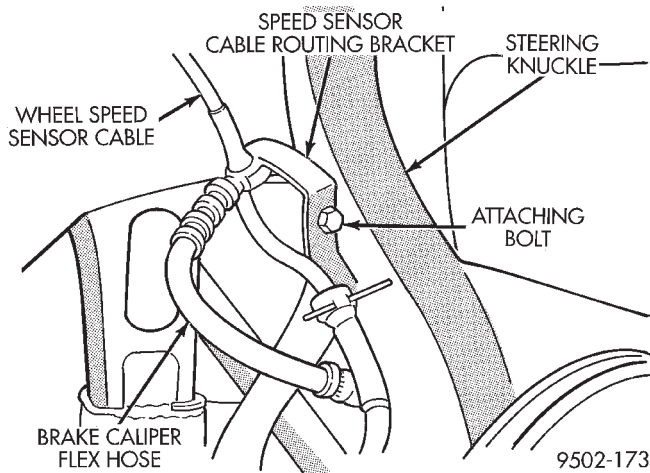

Fig. 11 Wheel Speed Sensor Cable Routing Bracket
(2) Remove wheel and tire assembly from location on front of vehicle requiring upper control arm removal.
(3) Remove the wheel speed sensor cable routing bracket (Fig. 11) from the steering knuckle.
(15) Install the routing bracket for the wheel speed sensor cable on the steering knuckle (Fig. 11). Install